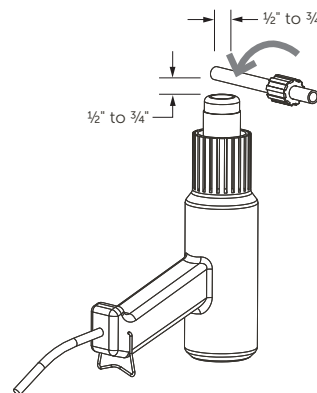

Figure 1. 213-79.
1. When using an Entegris hot air gun, set the hot air gun (see Figure 1) on "high." Hold $\frac{1}{2}$ " to $\frac{3}{4}$ " of the PFA tubing $\frac{1}{2}$ " to $\frac{3}{4}$ " above the heater and continually rotate the tubing 360° for the approximate time specified in Table 1 or until a fine, clear line appears around the tubing.